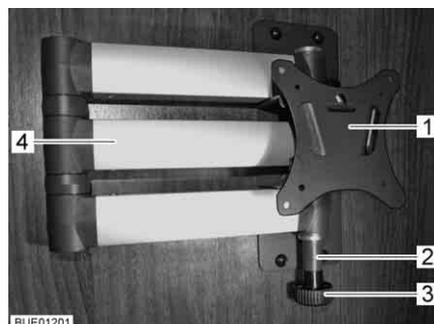

Fig. 52 Holder with jointed arm
- Pull the release knob (Fig. 52,3). The jointed arm (Fig. 52,4) is unlocked.
- Turn the flat screen back into the original position until the holder (Fig. 52,1) engages in the lock (Fig. 52,2).